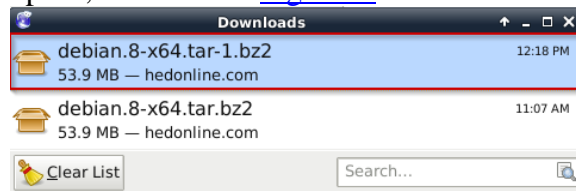

Figure 8: Linux—Download List
12. The download list opens, as shown in Figure 8.